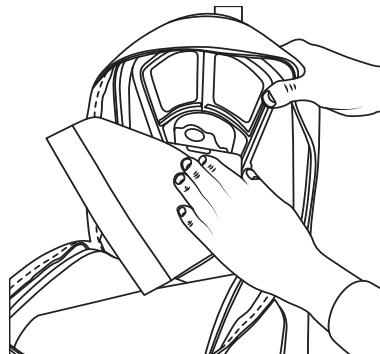

Fig. 10
3. To install new bag, position the bottom of the bag collar into the bag collar holder (Fig. 10).